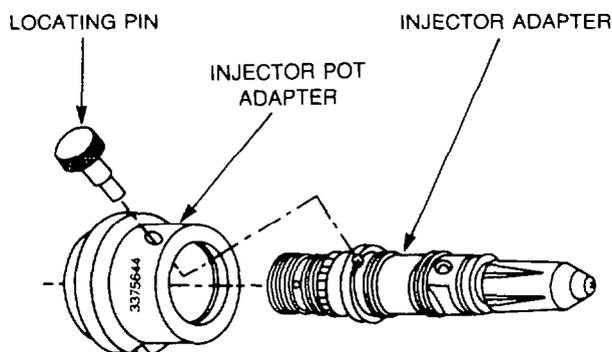

Figure 123 — Injector Pot Adapter — Installation
- f. Install the injector pot adapter 3375644 onto the injector adapter and insert the pot locating pin through the pot adapter into the hole in the injector adapter (see Fig. 123).